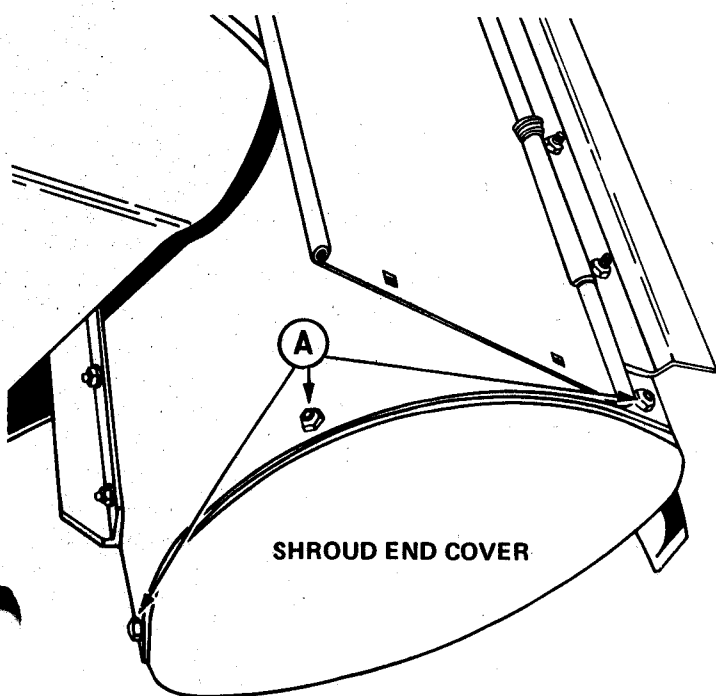

Figure 13
1. Remove bolts A, Figure 13, and remove the shroud end cover.